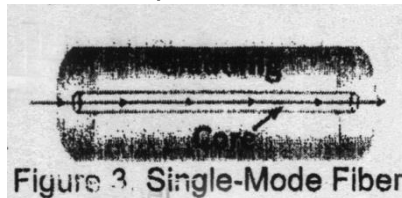

Figure 3. Single-Mode Fiber
13. In single-mode only one light is transmitted in the fiber which diameter ranges from 8.3 to 10 microns, see Figure 3. Since there is only one light the problem associated with the multimode fiber does not exist and by this we can have a higher transmission rate and also it can be used for longer distance. To utilize the fiber a Wave-Division-Multiplex (WDM) is used as it will be described later.